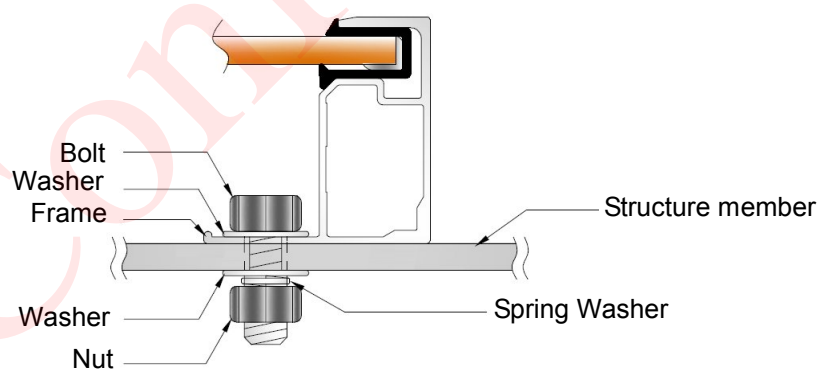

Fig.8 Mounting method - bolt
- PV modules may be fastened to a support by using bolt holes that are at the bottom of the frame with stainless M8 bolts, washers, spring washers, and nuts (Fig. 8).